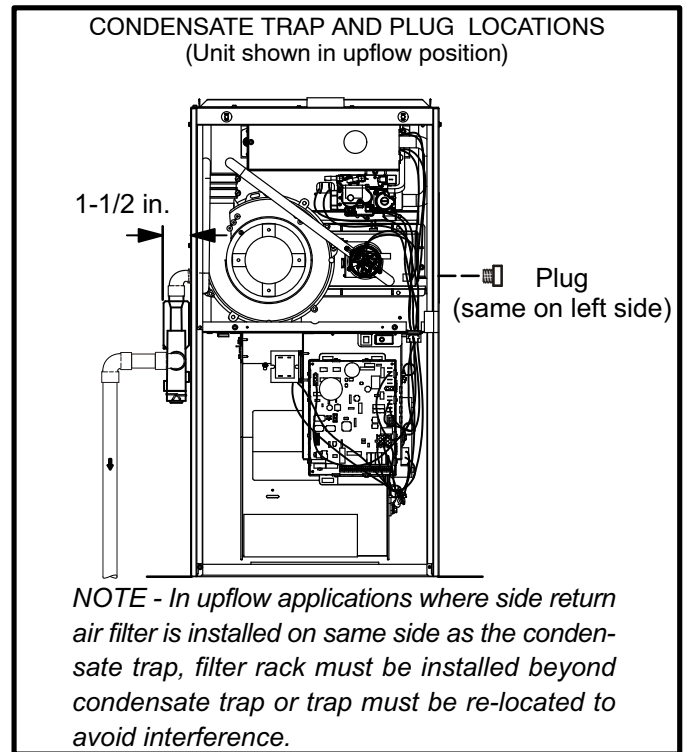
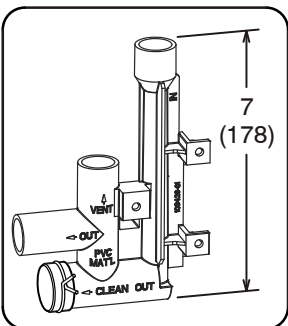

FIGURE 40
FIGURE 48
This unit is designed for either right- or left-side exit of condensate piping in upflow applications. In horizontal applications, the condensate trap must extend below the unit. An 8" service clearance is required for the condensate trap. Refer to figures 40 and 42 for condensate trap locations. Figure 48 shows trap assembly.
- 2 - For furnaces with a 1/2" drain connection use a 3/8 allen wrench and remove plug (figure 40) from the cold end header box at the appropriate location on the side of the unit. Install field-provided 1/2 NPT male fitting into cold end header box. For furnaces with a 3/4" drain connection use a large flat head screw driver or a 1/2" drive socket extension and remove plug. Install provided 3/4 NPT street elbow fitting into cold end header box. Use Teflon tape or appropriate pipe dope
- 3 - Install the cap over the clean out opening at the base of the trap. Secure with clamp. See figure 48.
- 4 - Install drain trap using appropriate PVC fittings, glue all joints. Glue the provided drain trap as shown in figure 48. Route the condensate line to an open drain. *Condensate line must maintain a 1/4" downward slope from the furnace to the drain.*